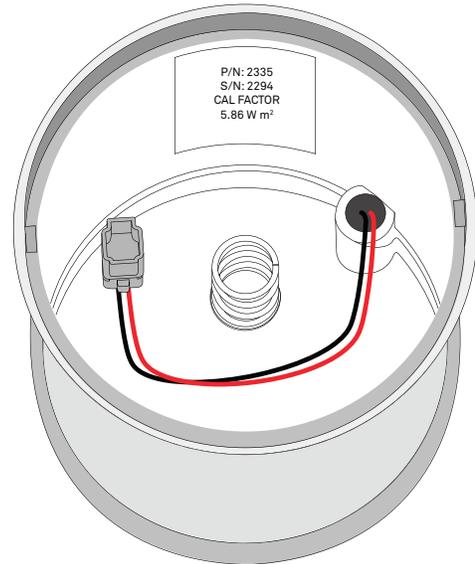

Figure 4 CAL Factor for new pyranometer sensor
8. Write down the calibration factor (CAL Factor) for the new pyranometer, located on the inside of the new funnel (Figure 4).